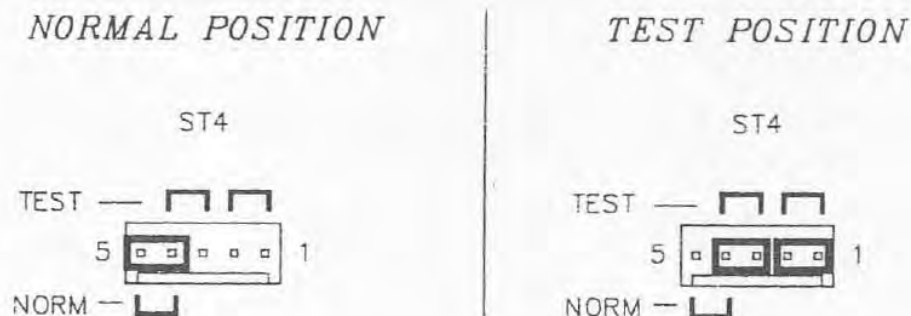

figure 1
- 3.10 Remove Converter Board to D.S.P Board ribbon cable (CB3). Reconfigure ST4 links on Converter Board to 'Test' position (see figure 1). If a spare link is not available use link at ST8 on Micro Board. If the signal now appears on the outputs the fault lies on the D.S.P Board, otherwise the fault is on the Converter Board.
- 4.02 Remove Converter Board to D.S.P Board ribbon cable (CB3). Reconfigure ST4 links on Converter Board to 'Test' position (see figure 1). If a spare link is not available use link at ST8 on Micro Board. If the signal is now OK the fault lies on the D.S.P Board.